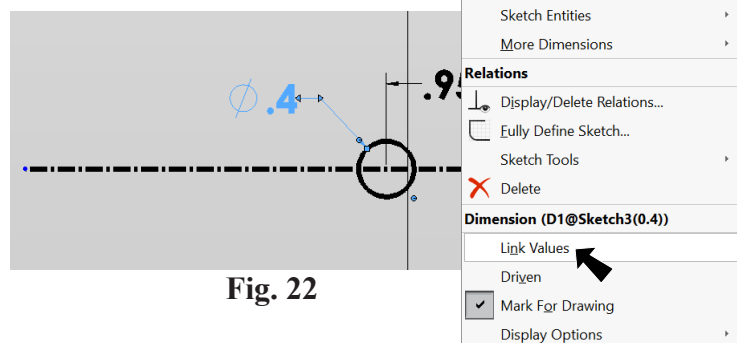

Fig. 22
Step 11. **Right click** the .4 diameter dimension and select **Link Values** from menu, Fig. 22.